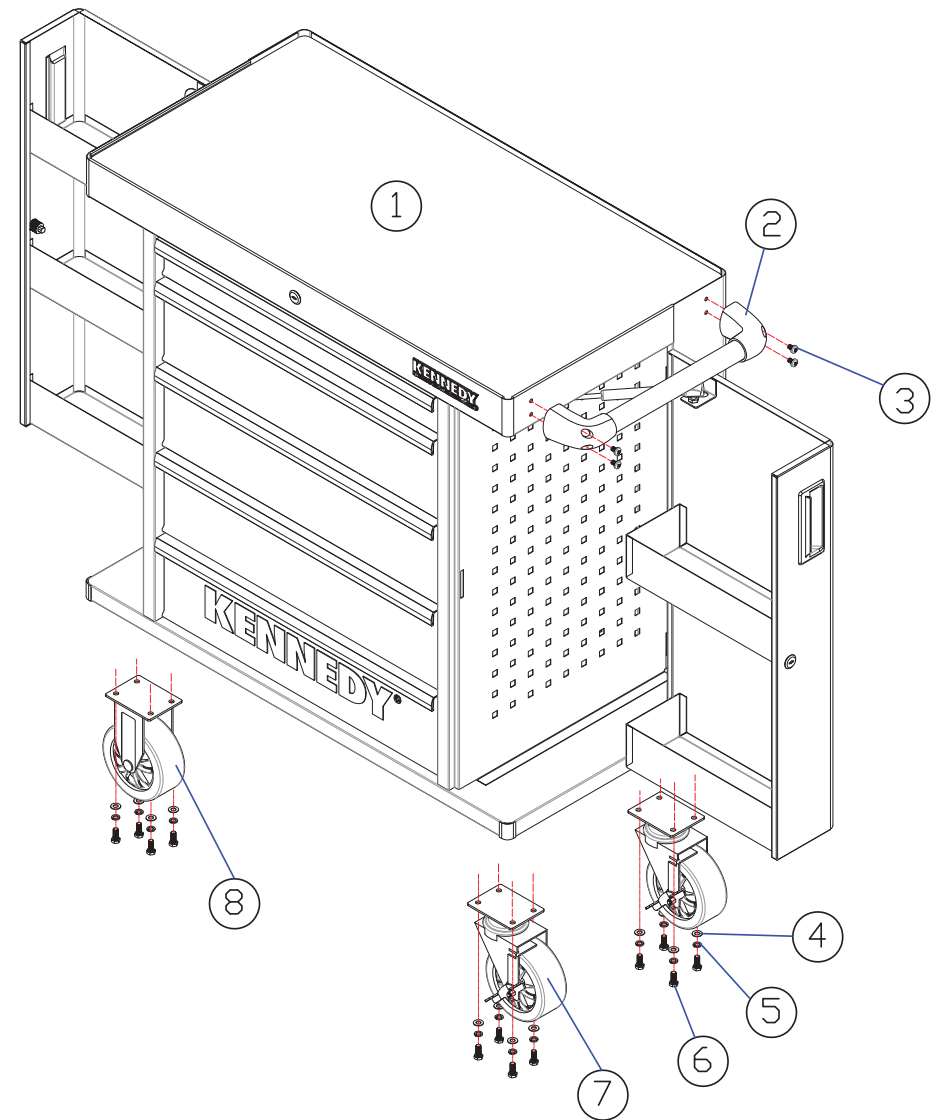

FIG.3
*Please note: we advise that 2 or more people should assemble the roller cabinet and top chest. See Fig.3 opposite.*